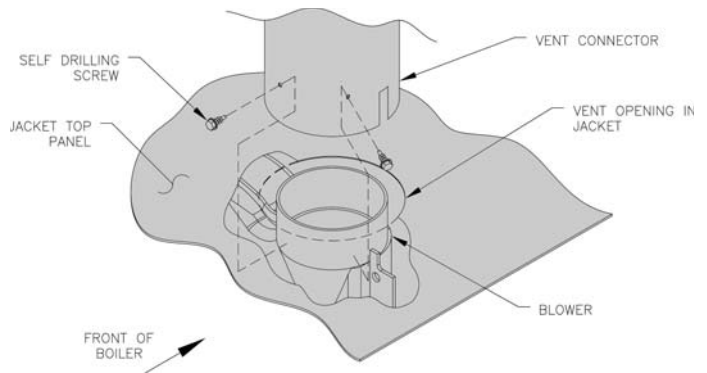

Figure 41: Blower Vent Connector Assembly
14. Connect Vent System. See Figure 41.